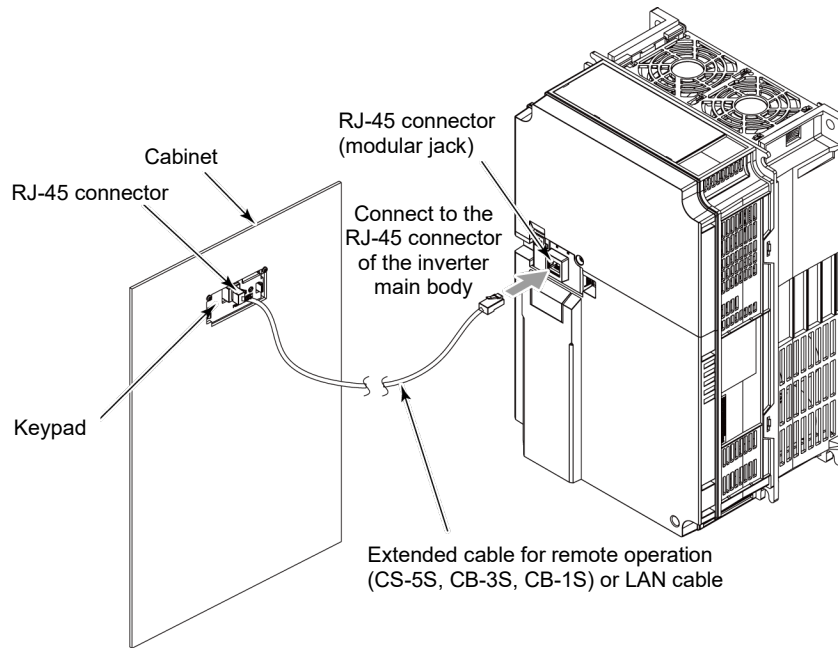

Figure 2.3-9 Connection of the extension cable or the commercially available LAN cable between the keypad and the inverter main body
- (6) Connect the extended cable for remote operation (CB-5S, CB-3S, CB-1S) or the commercially available LAN cable (straight) to the keypad RJ-45 connector and the inverter main body RJ-45 connector (modular jack). (Refer to Figure 2.3-9.)